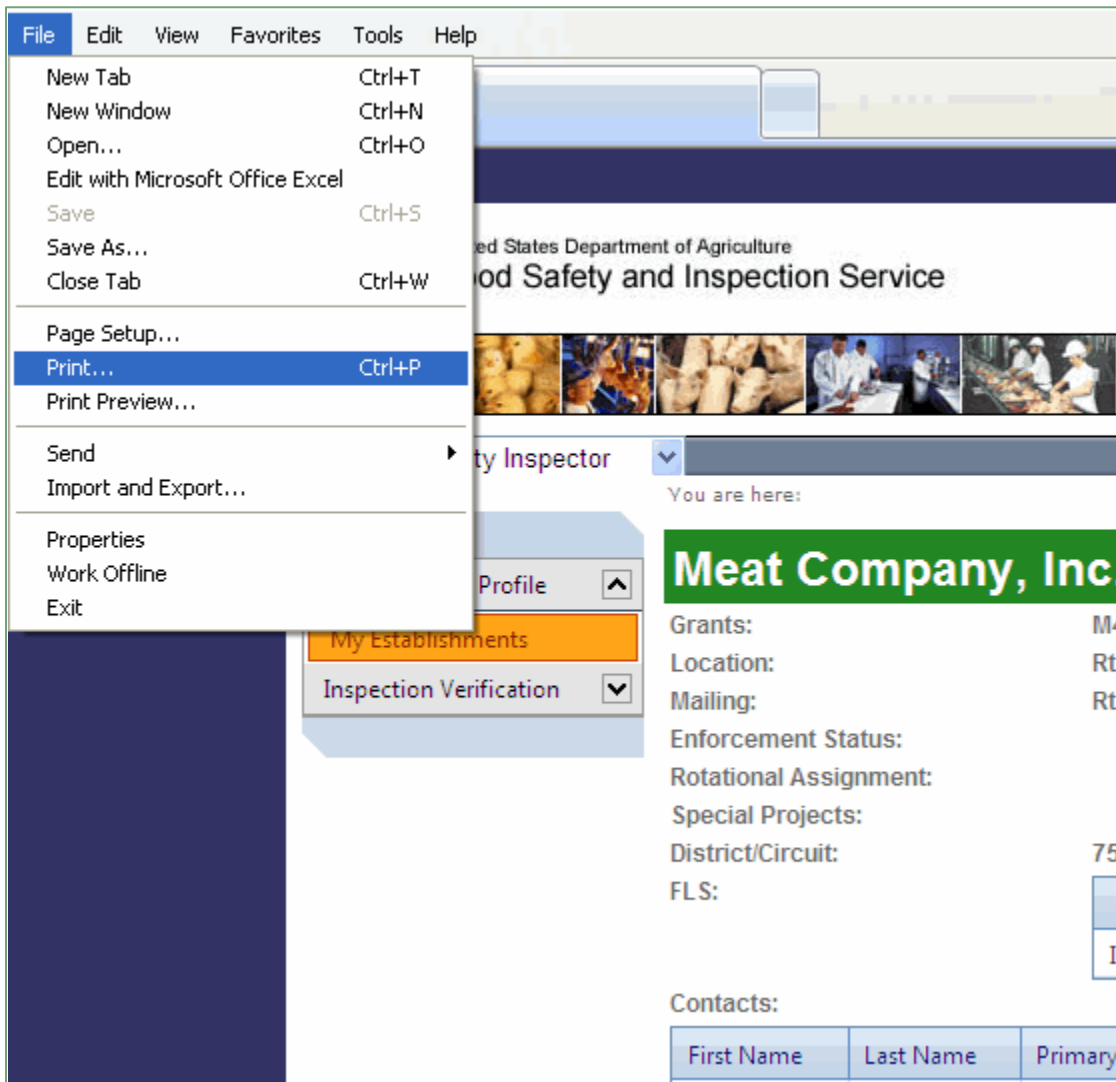

Figure 16: Printing to a Local Printer
2. From the list, select the Establishment that you want to work with. From your toolbar, select **File > Print** (see Figure 16).